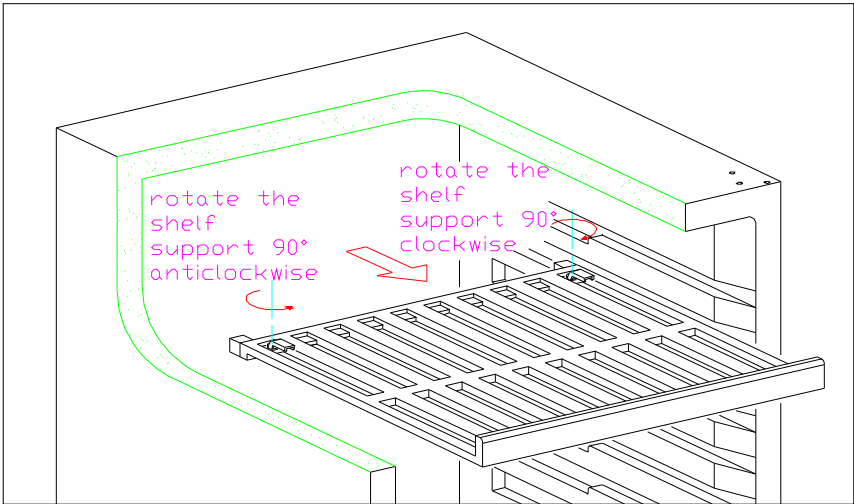

Fig.2
b. Some model need to remove the shelves fixer and turn the left shelves fixer 90° anticlockwise, while clockwise the right shelves fixer and remove the fixer according to the arrowhead direction(Fig.2).